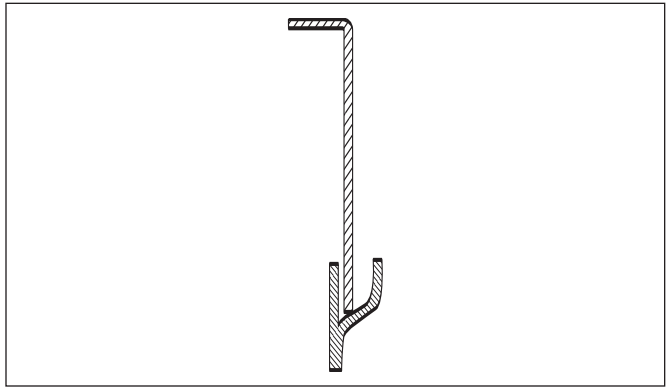

FIGURE 5-1
5.1. Before mixing sealant, set the full-bottom containment sump top into the channel of the sump base and seat it firmly in place. Make sure the top is centered in the channel. (See FIGURE 5-1.)